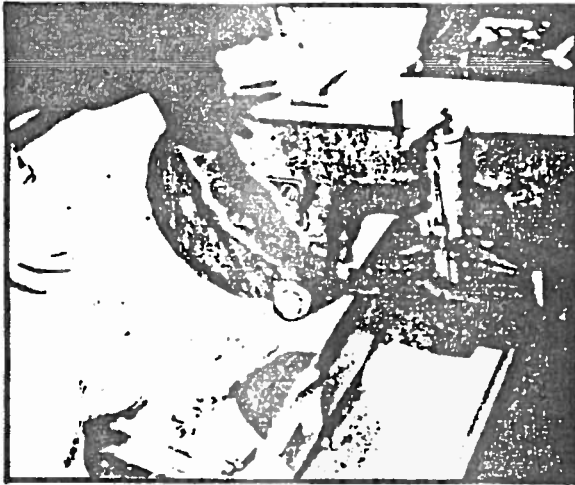

Fig. 1
9. While cutting, keep pitch build-up off the blade by using a lubricant on the moving blade. A mixture of water and kerosene works best at removing the pitch build-up. However, it will stain the wood. If this is not desirable, a mixture of soap and water is a good alternative. Store the solution in a plastic squeeze bottle and keep your hand at a safe distance while squirting the solution on the moving blade. Fig. 1.
2. With certain types of wood, gum and pitch will build up on the blade wheels and cause the blade to stall in the log. You will notice a noise change in the RPM's as the blade is about to stall. Prevent this from happening by pulling back on the handle to allow the machine to pick up speed. Once it does, spray on a lubricant of either water and soap, or water and kerosene onto the cutting blade before resuming the cut. See Fig. 1.